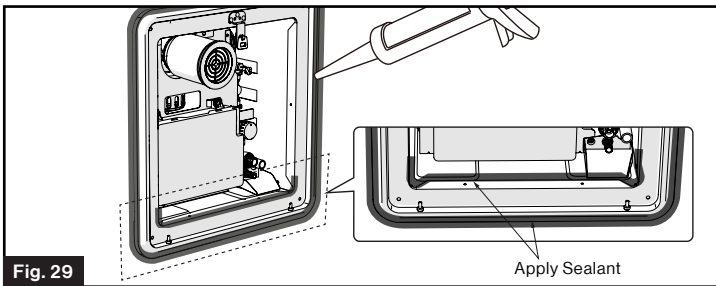

Fig. 29
7. Apply a liberal amount of sealant around the perimeter of the door frame and on the bottom inside of the flange along the edge and in the corners to fill any gaps to the RV wall. (Fig. 29) Wipe any excess sealant.